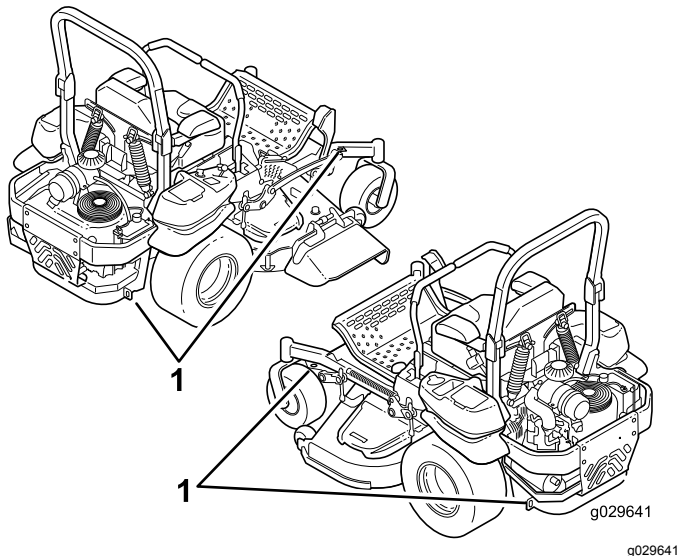

Figure 40
5. Use the metal tie-down loops on the machine to securely fasten it to the trailer or truck with straps, chains, cable, or ropes (Figure 40).